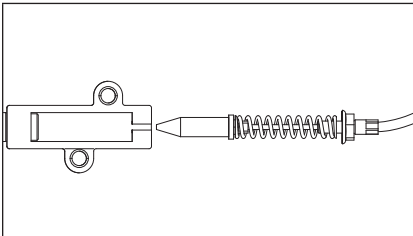

Figure 93
8. Remove the cable compression spring barrel. (Fig. 93)